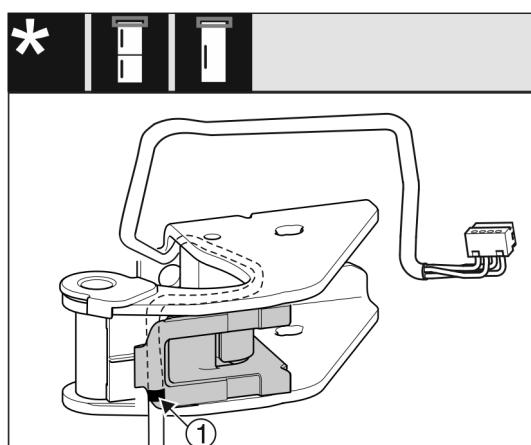

Fig. 26
- ▶ The middle marking must be positioned on the edge of the cable holder Fig. 26 (1).